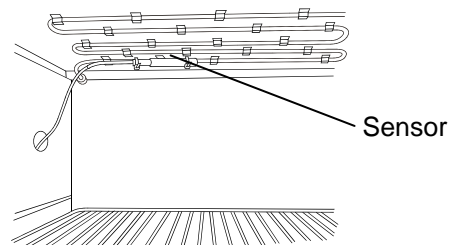

Fig. 2
6. After covering the recorder sensor with the cover provided, fix the recorder sensor under the 2nd shelf by using 2 enclosed binders. See Fig. 2.